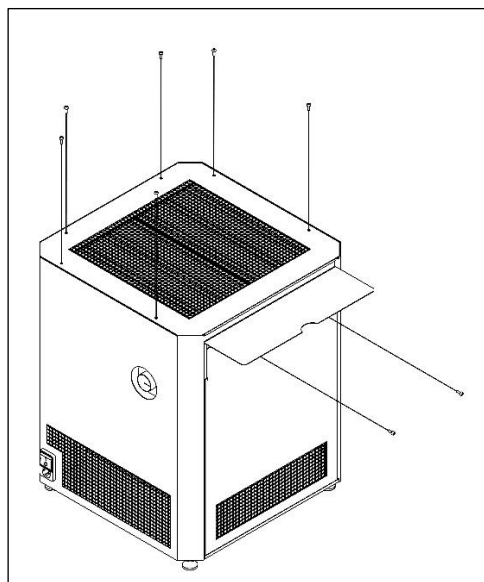

Figure 15
- 2.) Remove filter grille by loosening (6) screws on the top of the unit with a 2.5 mm Allen wrench. Also remove (2) screws holding access panel in place. See Figure 15.
- 12.) Reattach filter grille to frame using (6) screws. Tighten with an Allen wrench. See Figure 15.
- 13.) Reattach access panel to frame using (2) screws. Tighten with an Allen wrench. See Figure 15.